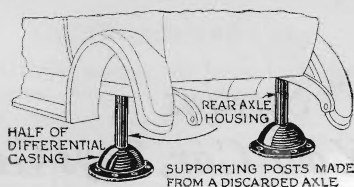

Fig. 3. Old axle supports frame when you have to remove rear axle
**T**HE common practice on light cars of supporting the chassis of the car on the running boards when the rear axle is taken out is rather risky. The running boards are not designed to support so much weight. The ends of the two halves of a rear axle housing can be cut off to the proper length to form substantial frame supports as shown in Fig. 3.